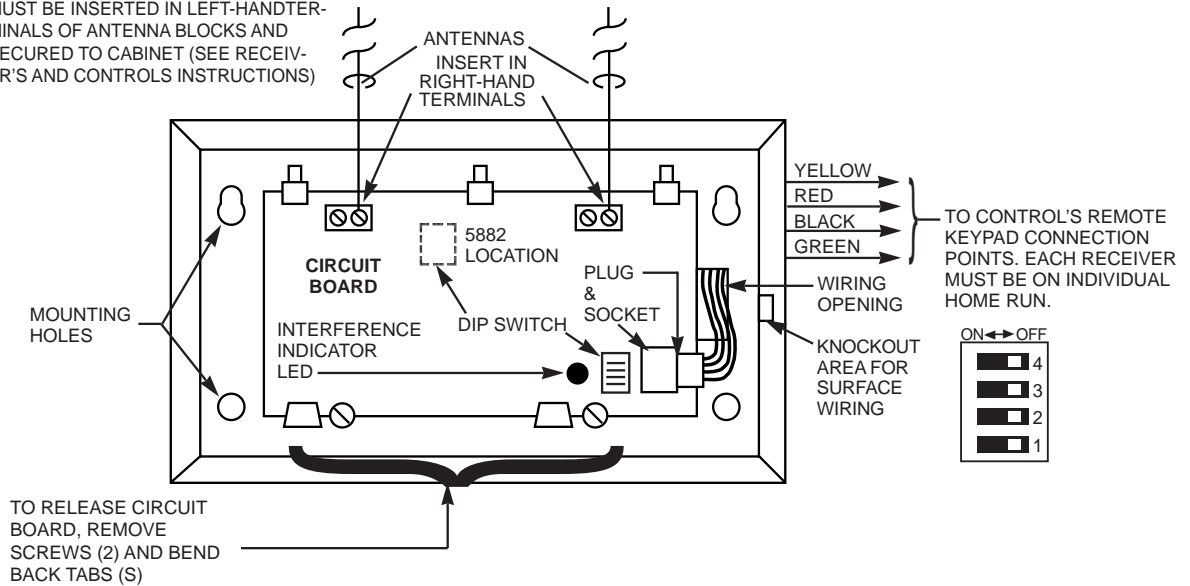

Figure 9. 4281, 5881, & 5882 Series Wireless Receivers (cover removed)
2. Make sure that the receiver's DIP switches are set for device address "0", as shown in Figure 9 (all switches to the right...OFF).
3. Connect the receiver's wire harness to the control's keypad terminals (4, 5, 6, and 7). Plug the connector at the other end of the harness into the receiver (see Figure 9).